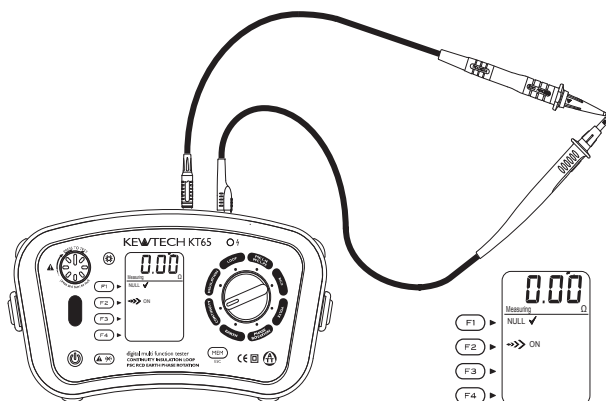

Fig. 13
- 3 Connect the ends of the test leads firmly together (see Fig.13) and press and lock down the test button. The value of the lead resistance will be displayed.
5 Release the test button. Press the test button and ensure the display reads zero before proceeding. While using the Continuity null function, “NULL✓” is displayed on the LCD as indicated in Fig.13. The null value will be stored even if the instrument is powered off. This memorised null value can be cancelled by disconnecting the test leads and pushing the Continuity Null button (F1) with the test button pressed or locked. When this is cancelled you will know because NULL OFF is displayed on the LCD.